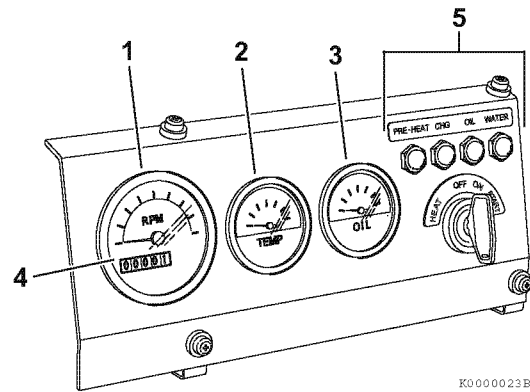
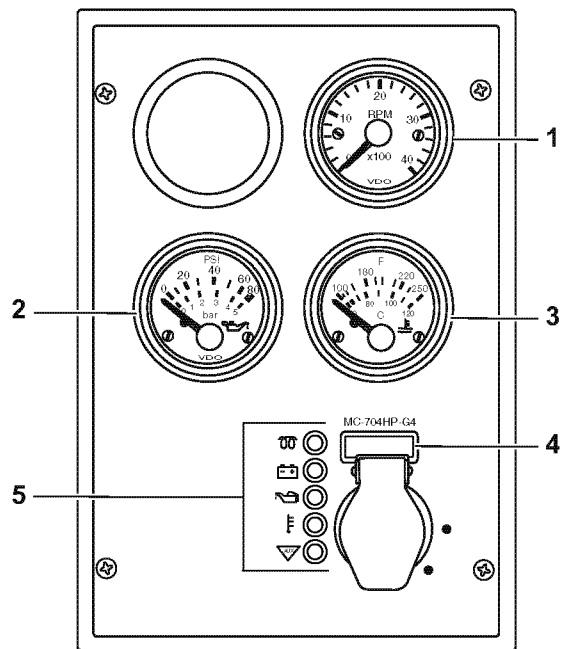

Figure 4
Figure 5
1. While the engine is running, check the gauges for normal indications. The gauges shown in **Figure 5** and **Figure 4** are provided for illustrative purposes only.
- **Tachometer** (1, **Figure 5**) or (1, **Figure 4**) - Make sure the engine speed is within normal limits. See *Engine Speed Specifications on page 122*.
- **Engine Oil Pressure** (2, **Figure 5**) or (3, **Figure 4**) - Make sure the engine oil pressure is within normal limits. See *Principal Engine Specifications on page 123*.
- **Engine Coolant Temperature** (3, **Figure 5**) or (2, **Figure 4**) - Make sure the engine coolant temperature is within normal limits.
- **Hour Meter** - The hour meter display (4, **Figure 5**) or (4, **Figure 4**) shows the total number of hours the engine has run. This is useful for planning periodic maintenance operations. See *Periodic Maintenance Schedule on page 82*.
2. After the engine has reached operating temperature, all of the indicators (5, **Figure 5**) or (4, **Figure 4**) should be off. If any of the indicators are on, shut down the engine and have the necessary repairs performed.